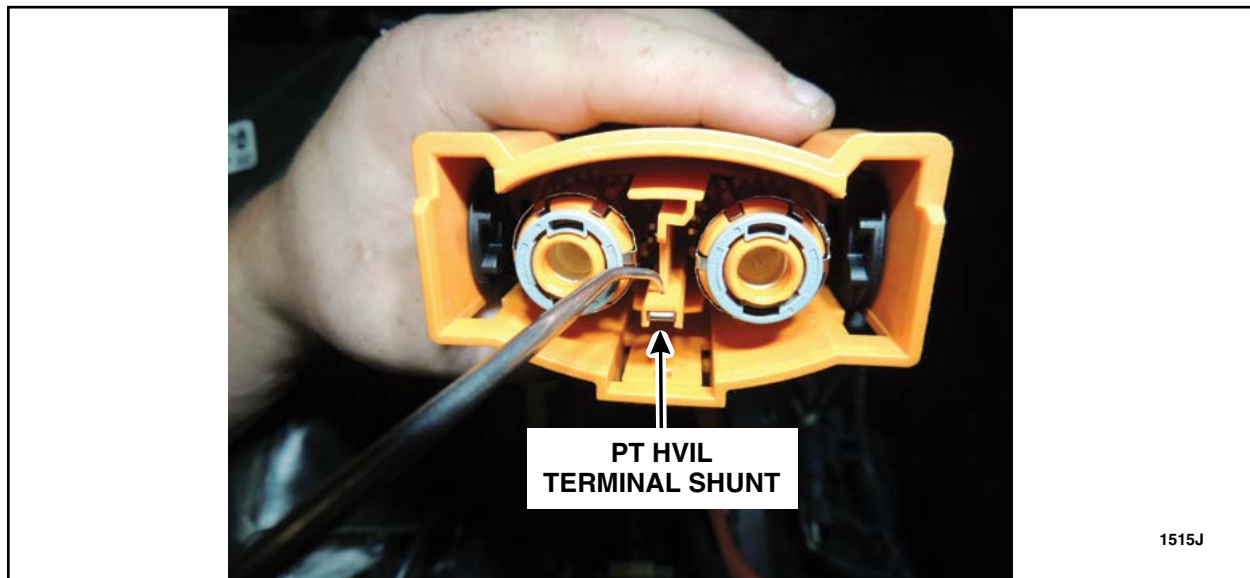

FIGURE 9
8. Turn the TCM connector upside down and locate the Powertrain High Voltage Inter-Lock (PT HVIL) Terminal Shunt locking tab access hole. Using an angled pick, depress the tab while pulling the shunt out of the connector and discard the shunt. See Figure 9.